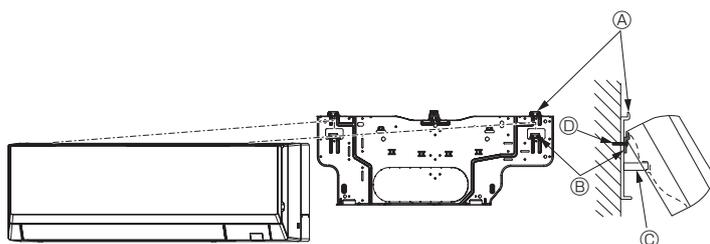

Fig. 3-26
- When the indoor unit cannot be hung and lifted up with the regular hook (the dimension of 2.1. ④ (the clearance between the ceiling and the unit) is 75 mm, 2-61/64 inch or less), hang the unit on the lower hook. (Fig. 3-26)
(Fig. 3-26)